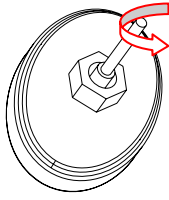

Fig. 19A
Procedure: Unscrew the nut and washer from (1) Heat Indicator as shown as Fig. 19A.